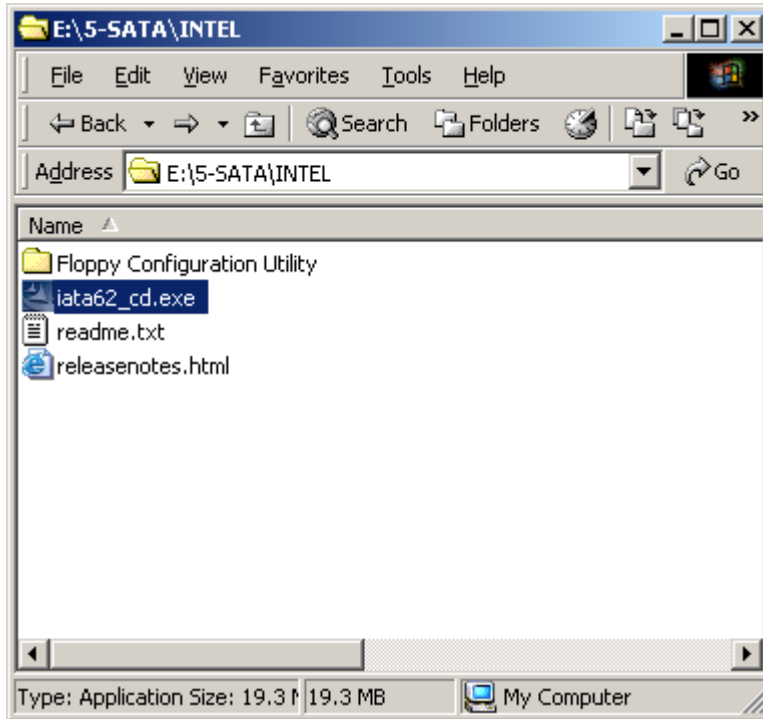

Figure 7-25: SATA RAID Setup Program Icon
Step 4: Double-click the **iata62_cd.exe** program icon in **Figure 7-25**.